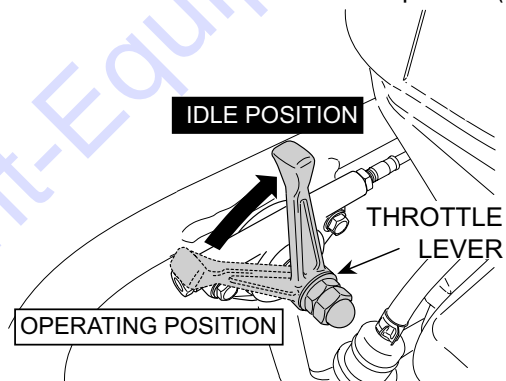

Figure 15. Throttle Lever (Idle)
3. Move the throttle lever to the "IDLE" position (Figure 15).